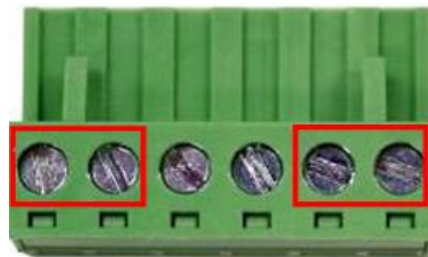

Figure 2.7
2. Tighten the wire-clamp screws to prevent the wires from loosening, as shown below in *Figure 2.7*.